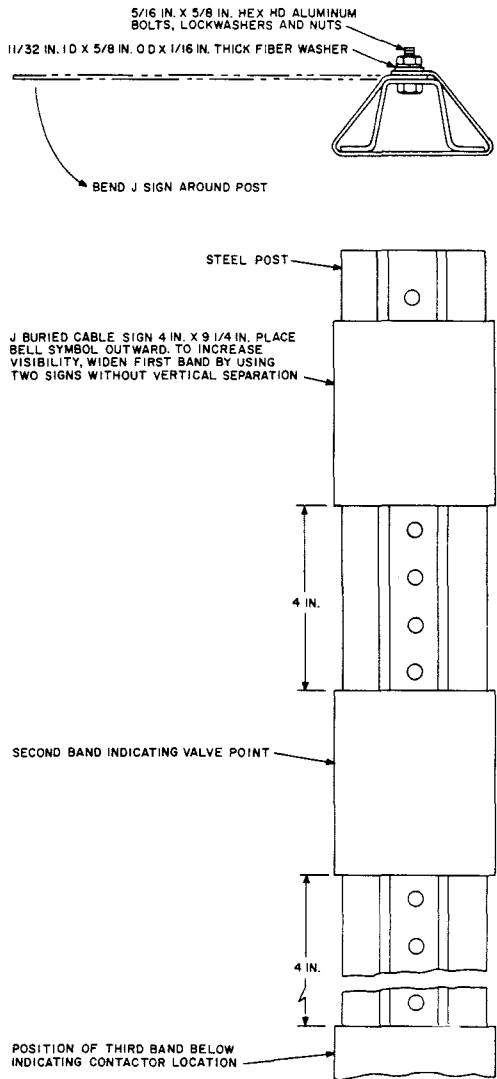

Fig. 14—J Buried Cable Sign Installed on Steel Post
5.11 The J buried cable sign is installed on the steel post by bending around the post (yellow side outward). Prior to bending, two 5/16-inch by 5/8-inch aluminum hexagon head bolts are placed through the required holes in the post as illustrated in Fig. 14. One end of the E buried cable sign, provided with two mounting holes, is placed on the bolts and the E sign bent around the post to engage the opposite mounting holes over the post. When in position assemble the fiber washer, aluminum lockwasher, and hexagon nut.